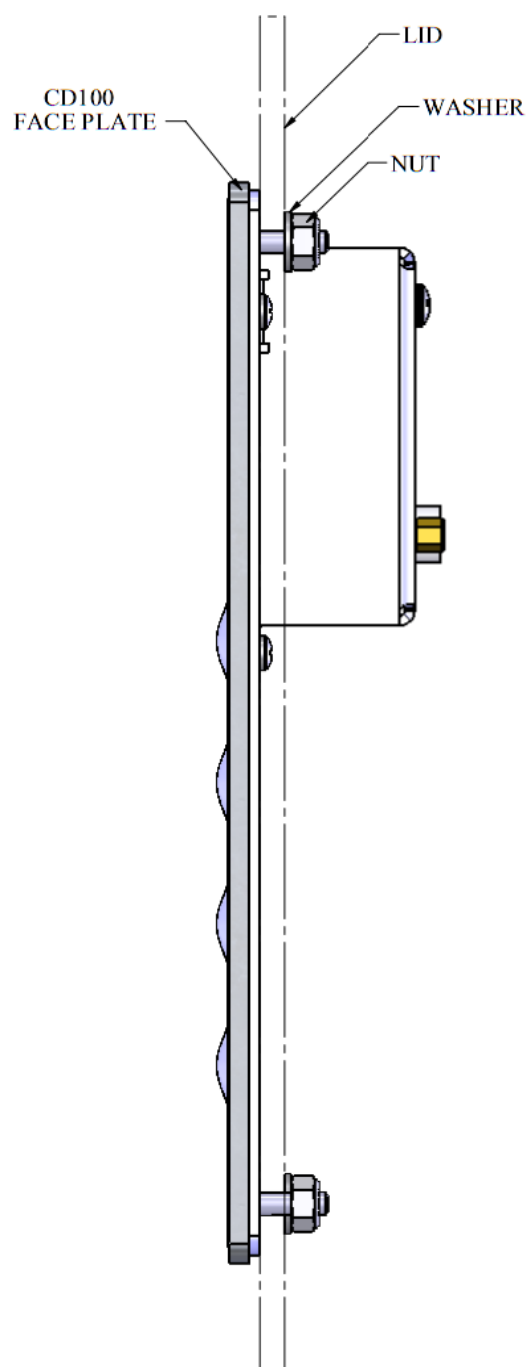

Figure 3. Profile of Installed CD100
4. Mount the CD100 as shown in Figure 3. Profile of Installed CD100.